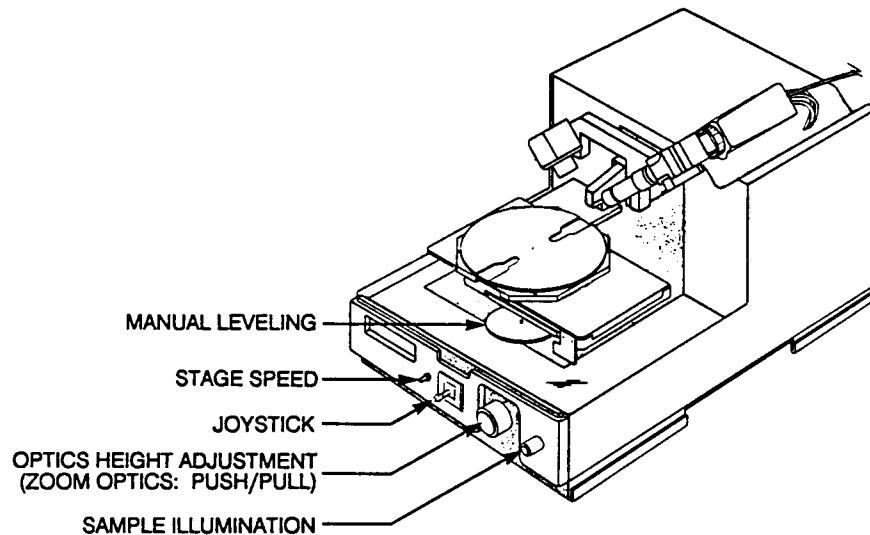

Figure 4-4. Stage
2. Move the stage forward by angling the joystick to the left (see Figure 4-4). The joystick position corresponds with the stage movement across the CRT, not the actual stage movement.
Manual coarse leveling is an important aspect of the DEKTAK 3030ST operation. The closest possible manual leveling will ensure the best instrument performance. The manual leveling thumbwheel (see Figure 4-4) levels the stage about a pivot axis directly centered below the stylus. This allows for sample surfaces not parallel to the reference surface block to be leveled (perpendicular to the stylus).